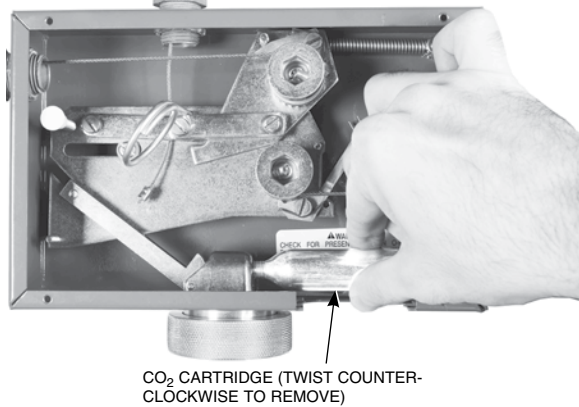
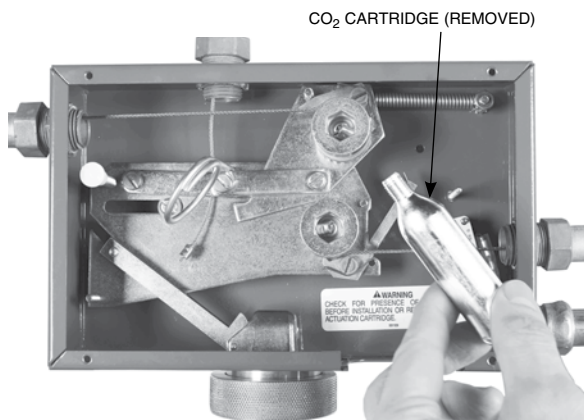

FIGURE 7
FIGURE 8
6. Remove the CO₂ cartridge from the mechanical control head assembly. Make sure the CO₂ cartridge is placed in a safe location. See Figure 7 and Figure 8.